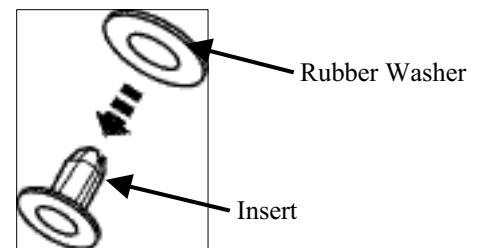

Fig. B2
2. Install a rubber (Santoprene) washer onto each of the plastic inserts. (Fig. B2)